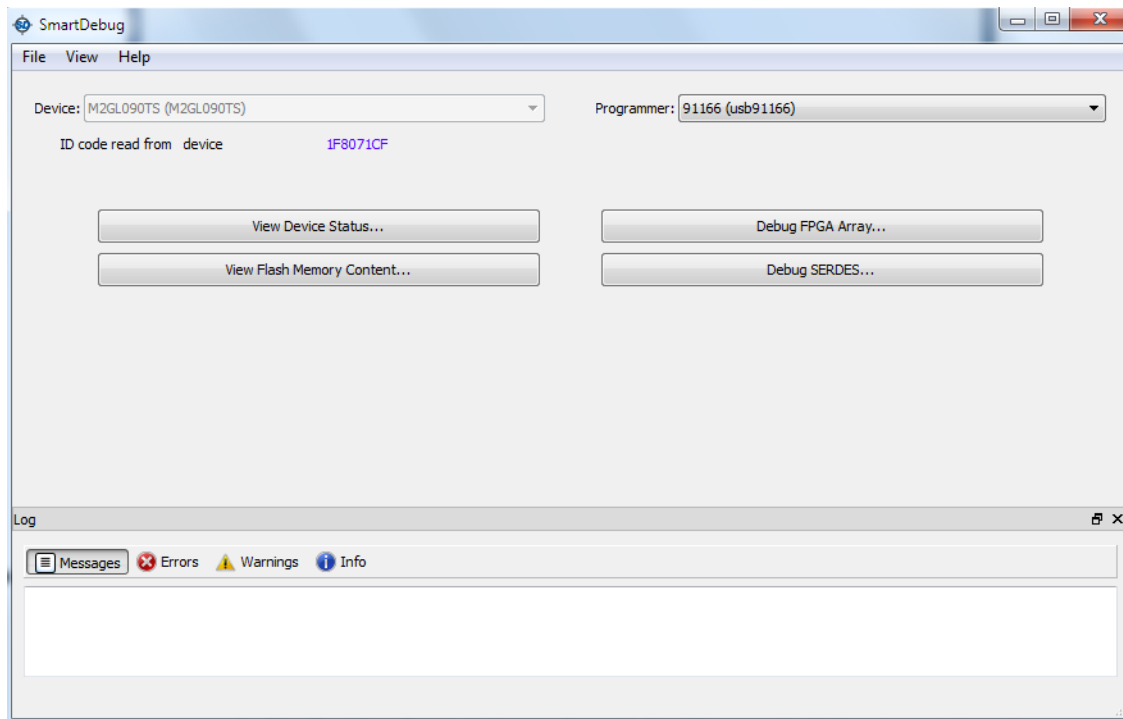

Figure 23 • SmartDebug GUI
2. Click **View Flash Memory Content** to retrieve the eNVM content from the device using the SmartDebug window as shown in Figure 23. The Flash Memory window is displayed.